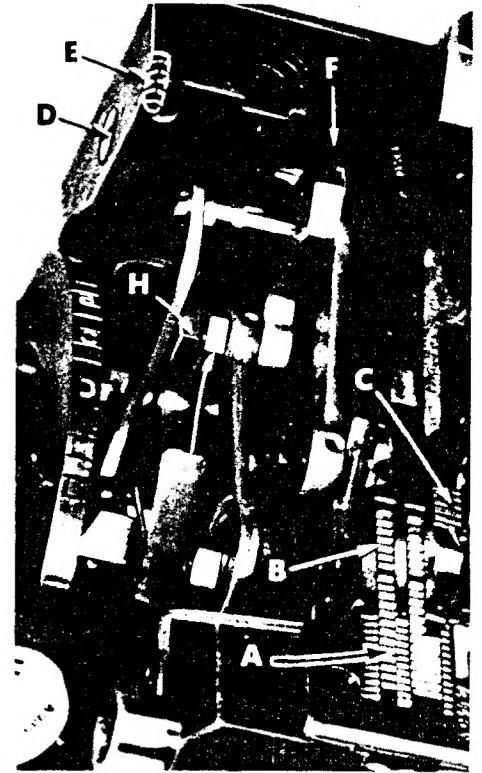

Fig. 12
Set all three feed dogs (A, B, C, Fig. 12) so the top surfaces of teeth all lay in the same plane. This can be checked by sighting across teeth with a straight edge. Now assemble throat plate. Feed dogs should now be leveled with throat plate surface by rotating feed tilting adjusting pin (D). This pin raises or lowers the back end of both feed bars at the same time.
Main feed drive eccentric ferrule (G, Fig. 12) adjusts the position of main and chaining feed dogs from front to rear by turning the eccentric to maintain the proper clearance between the main and differential feed dogs and the rear of the throat plate slot. Lock nut (H) to 19-20 inch lbs. when setting is made.